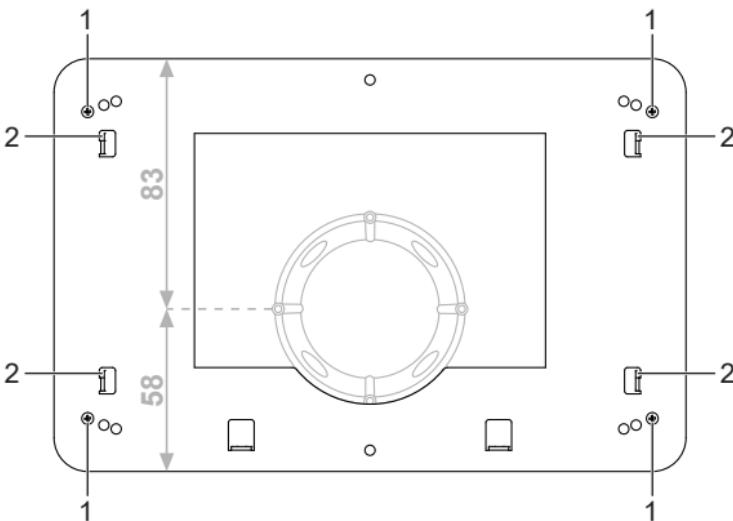
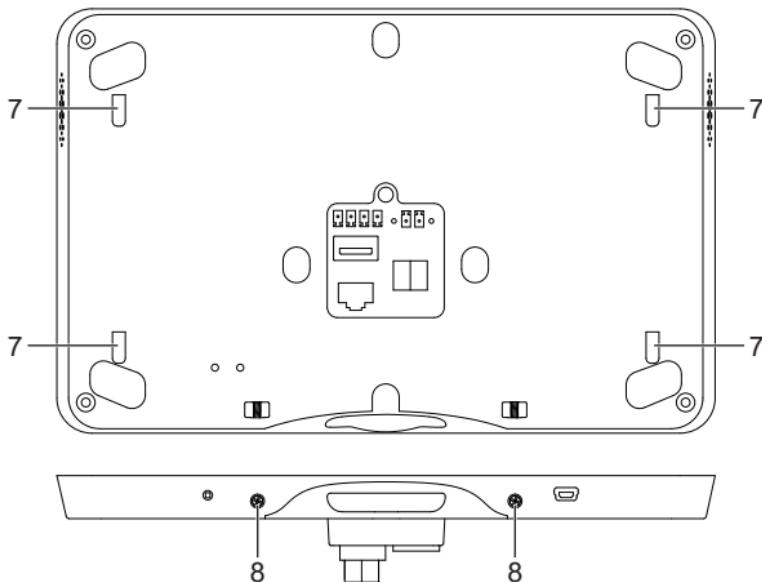

Fig. 2: Mounting the adapter
Fig. 4: Mounting the Smart Panel
- Mount the adapter on the installation box with a total of four locking screws (1). (fig. 2)
- Place the openings for wall mounting (7) on the Smart Panel on the fixing hooks (2) on the adapter. (fig. 2 and fig. 4)
- Fasten the Smart Panel to the adapter on the underside with a total of two locking screws (8). (fig. 4)